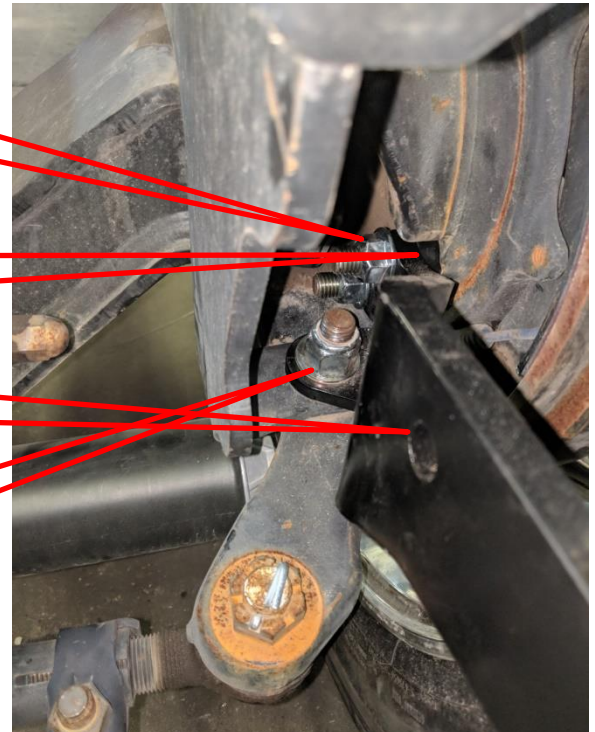

Figure 2 – Rear View of Lift Axle
8. Remove and discard (3) of (4) the ½" bolts from cam tube flange at the locations shown in Figure 2.
9. Install the PB62L and PB62R brackets to the cam flange as shown in Figure 2. Use the ½-13 x 1.75 flange bolts (provided in PN #104383 hardware kit) and tighten per axle manufacturer's specifications.